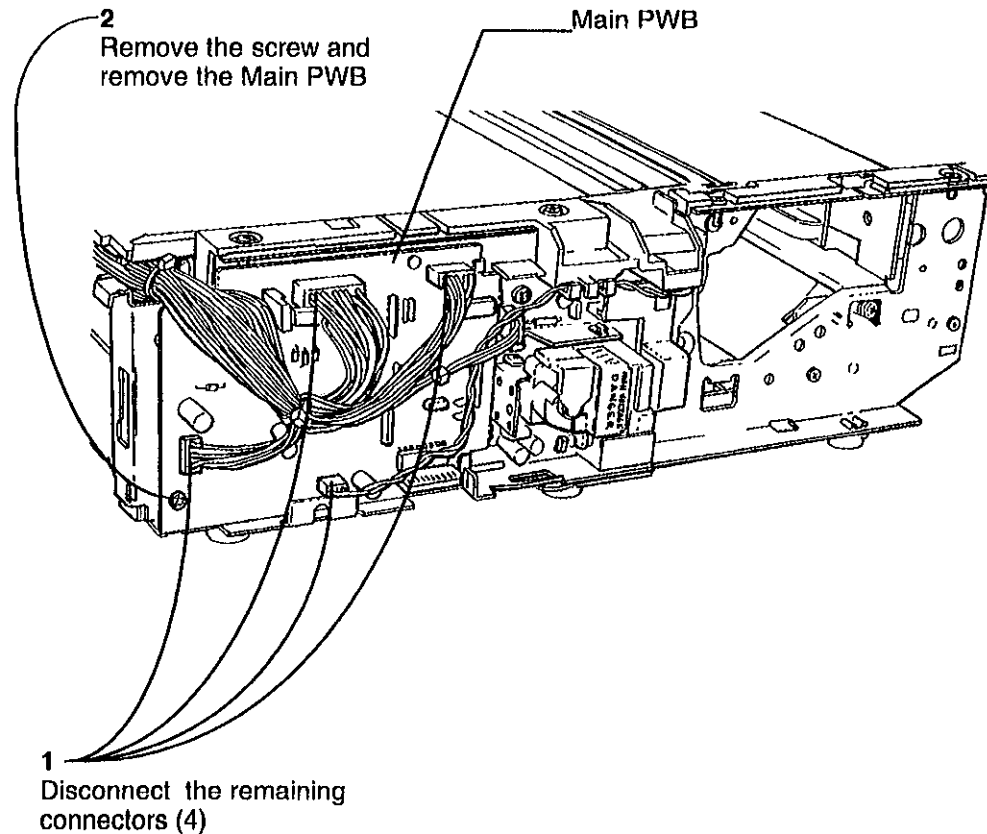

Figure 1. Removing the Main PWB.
- 3 (Figure 1) Remove the main PWB.